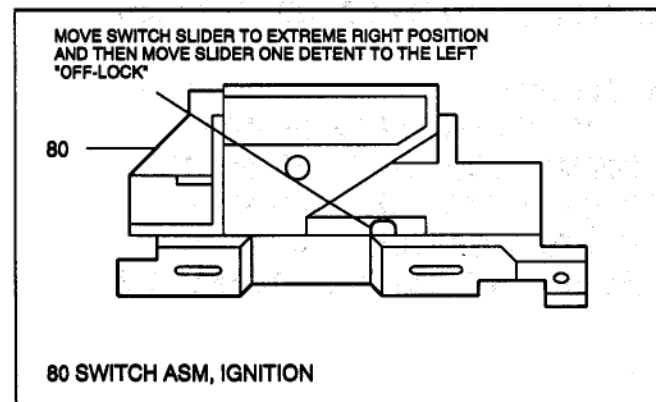

Figure 32 - Adjusting Ignition Switch
1. Lock cylinder (20) to "OFF-LOCK" position.
NOTICE: Install ignition switch (80) to jacket (72) with switch in "OFF-LOCK" position. (See Figure 32) New ignition switch will be pinned in "OFF-LOCK" position. Remove plastic pin after switch is assembled to column. Failure to do so may cause switch damage.